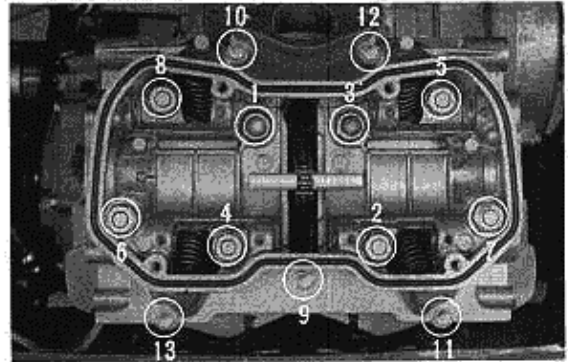

Fig. 4-15
- When tightening these bolts, follow the sequence shown in Fig. 4-15.